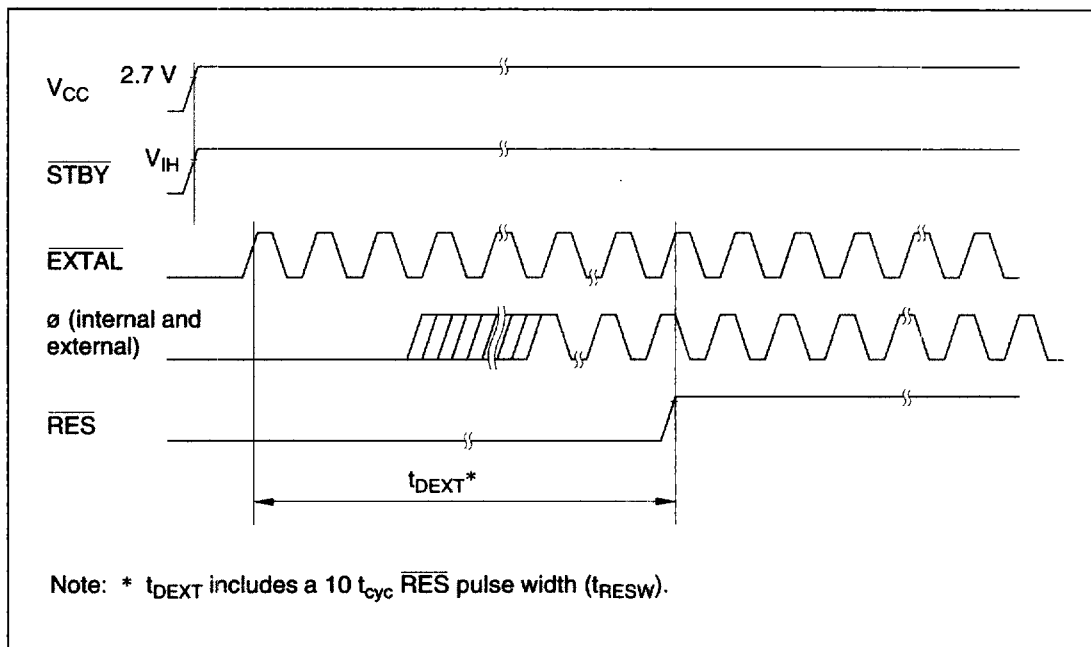

Figure 19-22 External Clock Output Settling Delay Timing
19.3.10 External Clock Output Timing	Figure 19-22